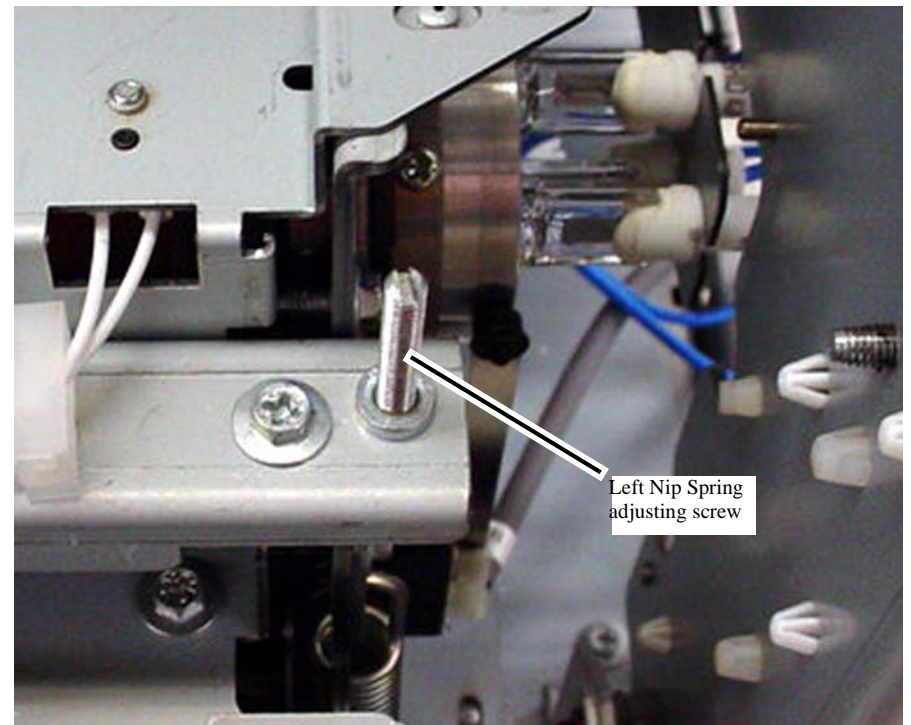
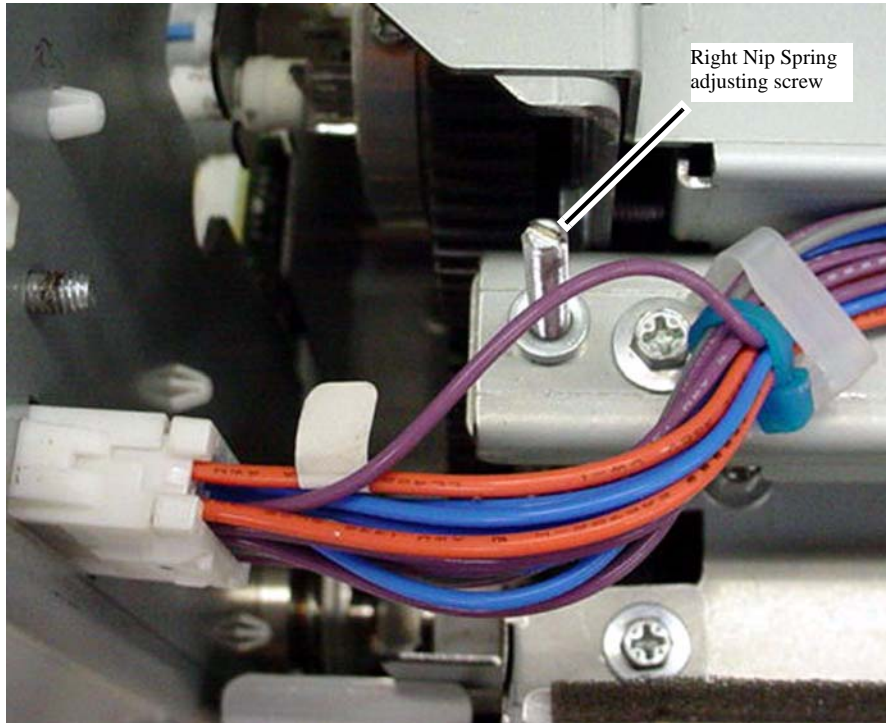

Figure 5 Left Nip Spring adjusting screw
Figure 6 Right Nip Spring adjusting screw
3. Using a flat-blade screwdriver, turn the left (Figure 5) and/or right (Figure 6) adjusting screws, as required, to achieve the correct spring length of 90mm on each side.